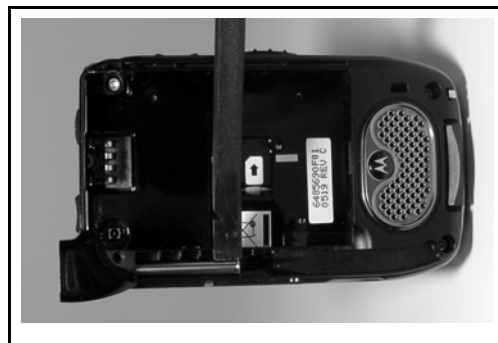

Figure 7-4.
5. If needed, remove the Antenna Metal Tube by inserting the flat tip of the Black Stick into the tube channel above the SD Card slot (See Figure 7-4)